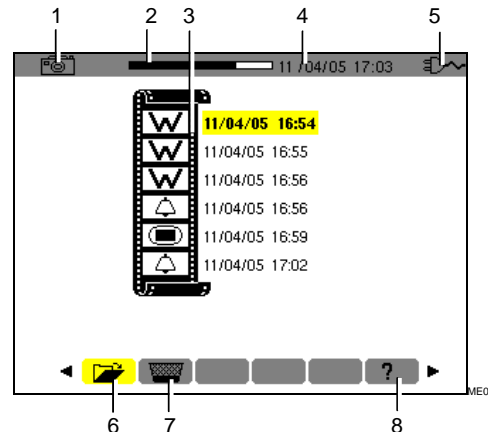

Figure 42: Example of display of a list of screen grabs.
The display unit presents a list of stored screen grabs (Figure 42).
1. With the screen listing the screen grabs displayed (Figure 42), check that the  sub-menu (bottom of screen) is selected.
4. Return to the list of screen grabs (Figure 42) by ↵.
1. With the screen listing the screen grabs displayed (Figure 42), select the  sub-menu (bottom of screen) using ◀▶.